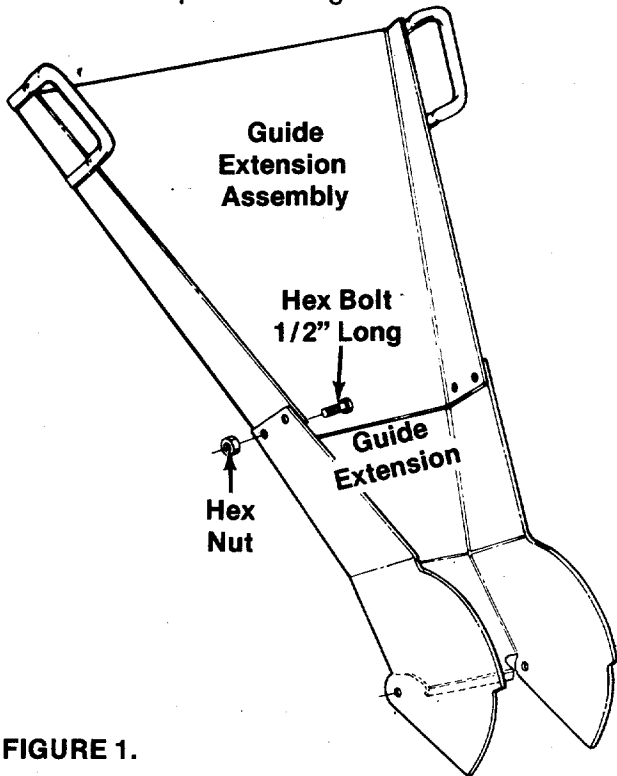

FIGURE 1.
2. Place the guide extension assembly in place on guide extension and secure with four hex bolts  $\frac{1}{2}$ " long and hex nuts provided in hardware pack. See figure 1.